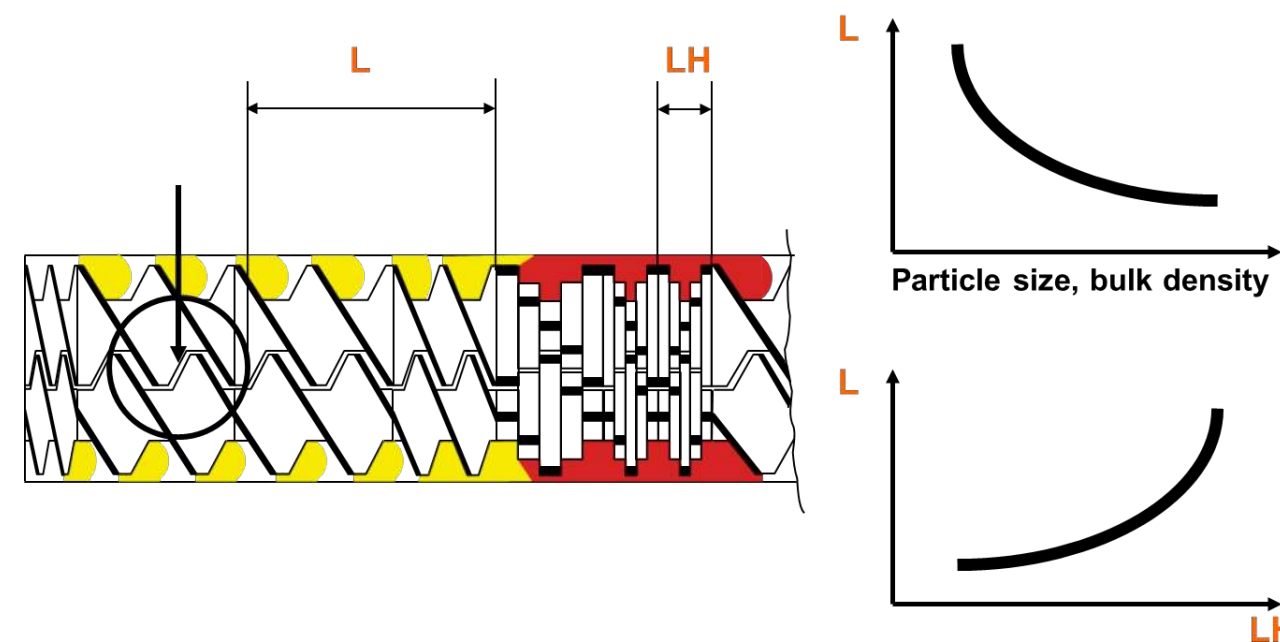

Figure 1: Conveying zone length as function of feedstock particle size
The physical form of the polymer/polymer MB premix has a significant impact on the location of the melting zone relative to the feed barrel, as well as the screw configuration in the conveying section. In general the typical 3.0 mm pellet is easy to feed and causes no problems, but as the polymer or premix particles get smaller there are several issues that can develop. Figure 1 depicts two of these potential issues. First, as the upper right side graphic illustrates, the finer the particle size the further the melting section needs to be moved downstream, i.e. increase the conveying distance L, to avoid the potential for back up into the feed throat. This is the result of a greater percentage of air being introduced with the polymer as the particle size is reduced. This air is forced back toward the feed throat as the powder is compressed prior to entering the melting section. The countercurrent air flow fluidizes the powder in the screw channel and reduces the conveying efficiency of the elements. In the worst case scenario it will cause a backup into the feed throat, and thus the required production rate will not be achieved. As a consequence the rate per rpm is lower, this in turn means that the specific mechanical energy and the associated melt temperature are higher, and the potential for degradation of the polymer or additives is increased. Alternatively, if the restrictive element at the end of the melting section, most often a left handed (LH) kneading block, is too strong then the fluidized powder can also back up toward the feed throat. However, as will be discussed in the next section, this back up can result in significant melting issues even if the material does not back up all the way to the feed throat. Therefore, especially for powder feeds, the designer must pay attention to the location and design of the melting section.